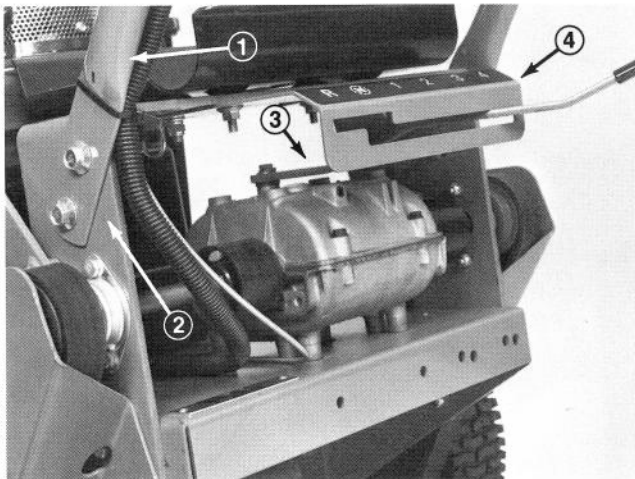

Figure 1
1. Align upper handle mounting holes with mounting holes in frame and secure each side with (2) 3/8-16x1" lg. flange capscrews and flangenuts (Fig. 1).
transmission. Do not remove rubber washer on top of transmission. Secure lever to transmission with 1/4-28x3/4" lg. capscrew, lockwasher and plain washer. Torque capscrew to 100-125 in.-lb (Fig. 1).